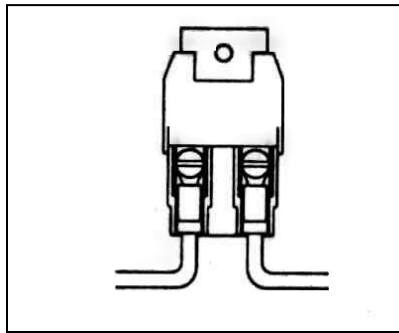

Figure 7.3 Maxi-Fuse
- Parts Box, containing the maxi-fuse (See **Figure 7-3**), GM alternator connectors, terminals, splices, etc.
7.4.1 Install Maxi-Fuse (**Figure 7.3**) onto the end of ENGINE SECTION (single) 10-gauge wire #916 (red) AFTER having routed wire from the fuse panel to the starter solenoid. This link is two (2) gauges smaller than wire #916 and serves as a fuse to protect the entire harness. DO NOT OMIT IT!